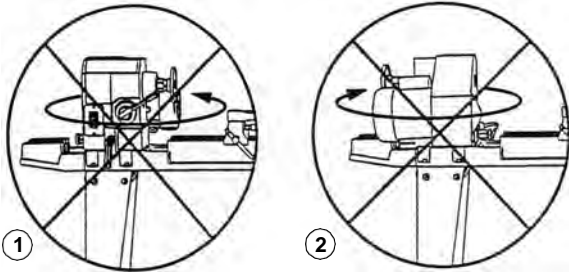

Fig. 15: Adjustment of the spindle head
Step 1: Do not turn the spindle head counterclockwise when it is in this position (Pos. 1, Fig.15).
Step 2: Do not turn the spindle head clockwise when it is in this position (Pos. 2, Fig.15).